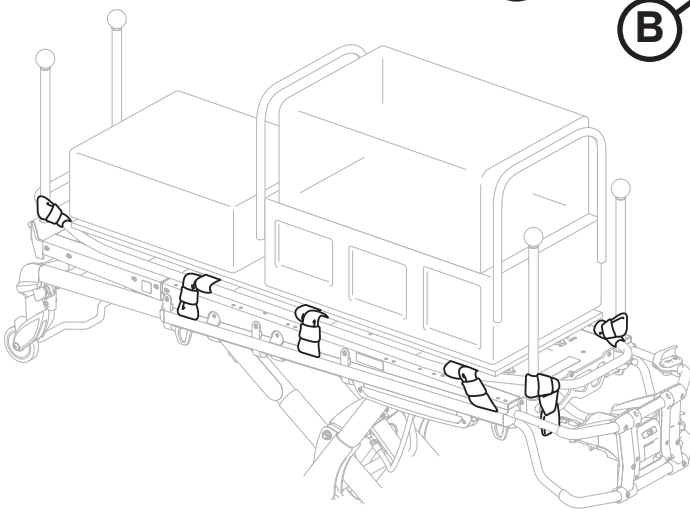

Figure 33
3. Confirm that the Air Sled is secured to the cot as shown in Figure 33.